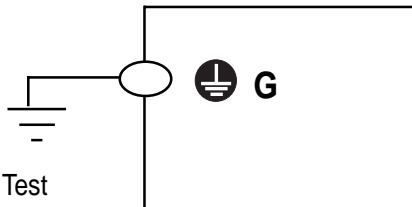

Fig. 8-4-1 Megger Test
3. Connect the main circuit terminals with a common cable as shown in Fig. 8-4-1.